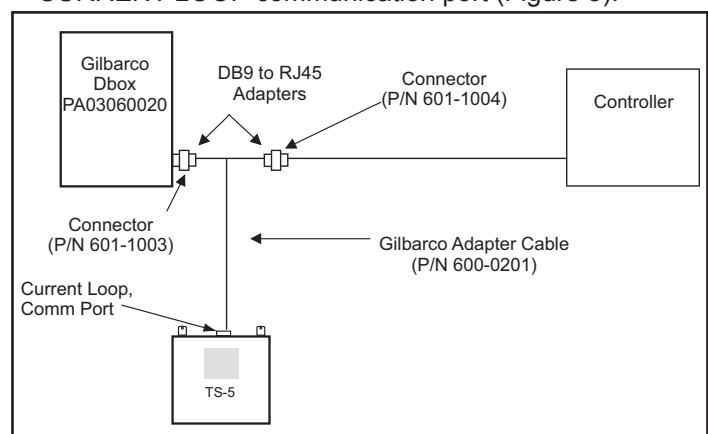

Figure 3: Connecting to Gilbarco D-Box PA03060020
- If the Gilbarco system uses a PA03060020 D-Box, disconnect the Gilbarco console/controller from the distribution box and connect the Gilbarco style Dispenser Interface Cable (600-0201) to the Gilbarco D-Box between the two supplied adapters (p/n 601-1003 and 601-1004). Connect the long end of the Gilbarco style Dispenser Interface Cable (600-0201) to the TS-5 series CURRENT LOOP communication port (Figure 3).